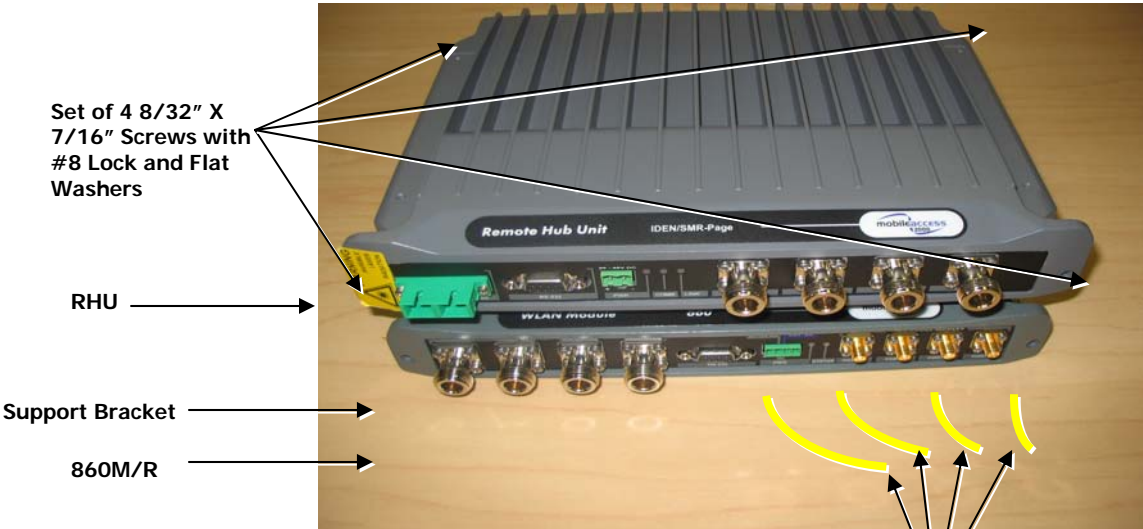

Figure 3-8: RHU stacked on top of 860M/R
- 4. Stack the MA 1000 RHU to the bracket using the four provided screws and connect the RHU to the 860M/R with SMA to N-Type jumper cables (not provided) as shown in **Figure 3-8: RHU stacked on top of 860M/R**. It is recommended to use jumper lengths of 6in, 1ft or 5.5ft based on the relative position of the 860M/R to the RHU.